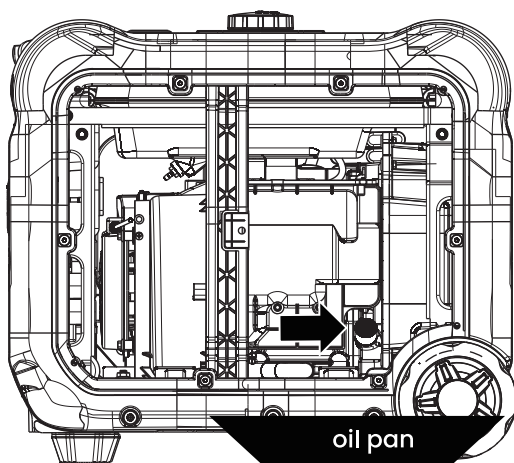

Figure 9: Place oil pan under oil fill/drain plug
4. Place oil pan (or suitable container) under the oil fill/ drain plug (see Figure 9).